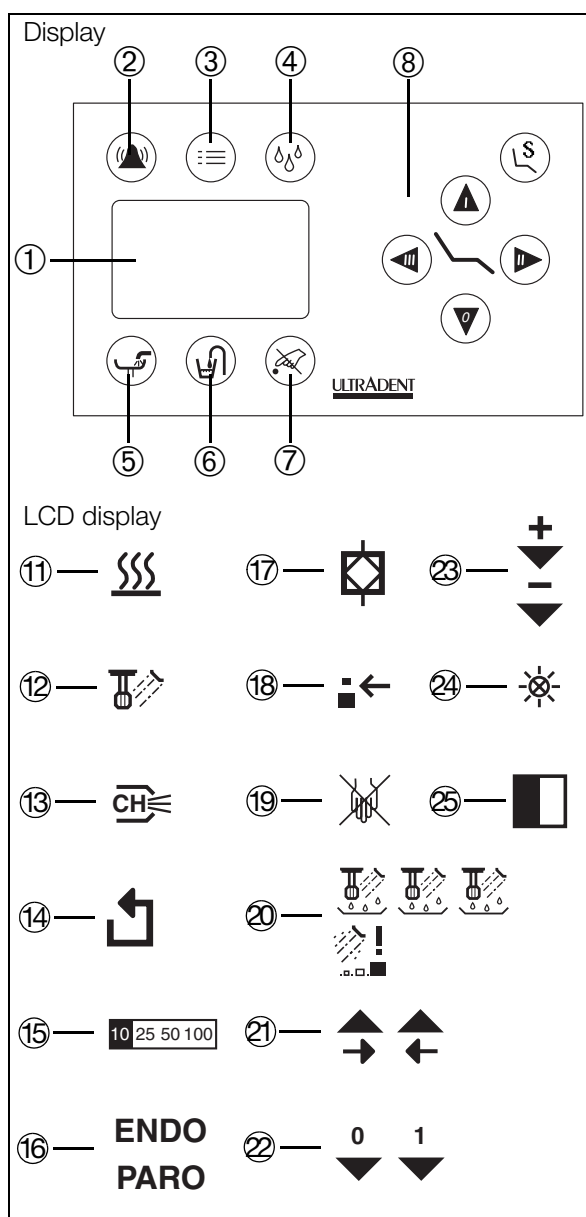

Fig. 26
To change the intensity of the light, remove the turbine hose from its holder and then press the menu key ③ (Fig. 26). The sub-menu then appears.
- Keep tapping on the right-arrow ㉑ (Fig. 26) touch key until the symbol ㉔ (Fig. 26) appears.
- By tapping several times on the two touch-keys marked with the symbols ㉓ (Fig. 26), the intensity can be changed incrementally.
- Once the required intensity has been set, you return to the main menu by tapping on the ③ (Fig. 26) key.